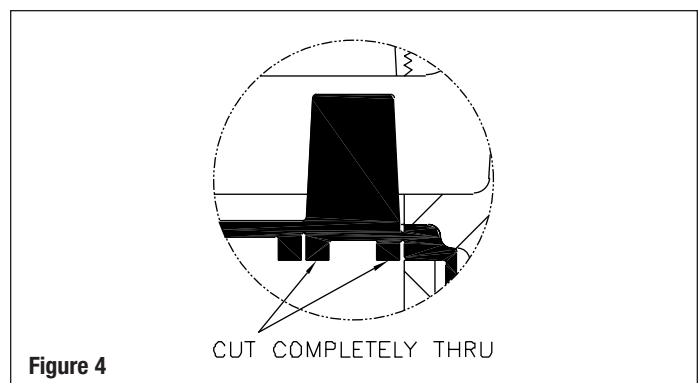

Figure 4
2. Using a sharp-bladed utility knife, reach down into the drain body and cut into the gasket along the dotted line. It is important to make sure that the cut is made fully through the two annular shaped rings shown in Figure 4. Failure to cut through these rings can result in tearing of the pull handle during removal of the cap.